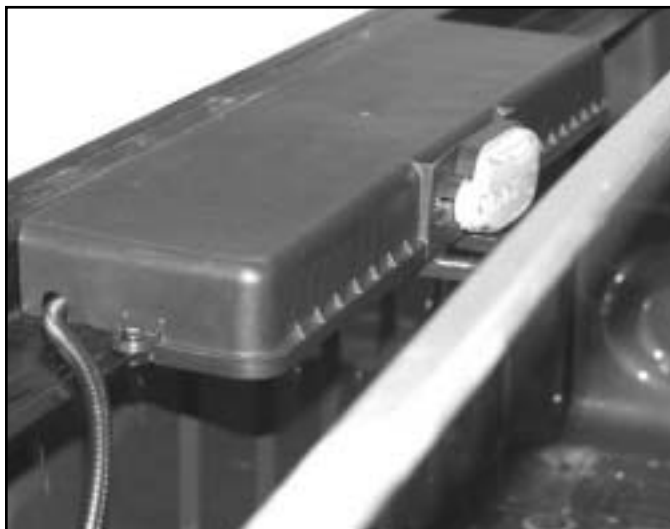

Figure S-23
10. Position the motor cover onto the front rail, install the four (4) T-20 Torx retaining screws and fasten. See figure S-23.